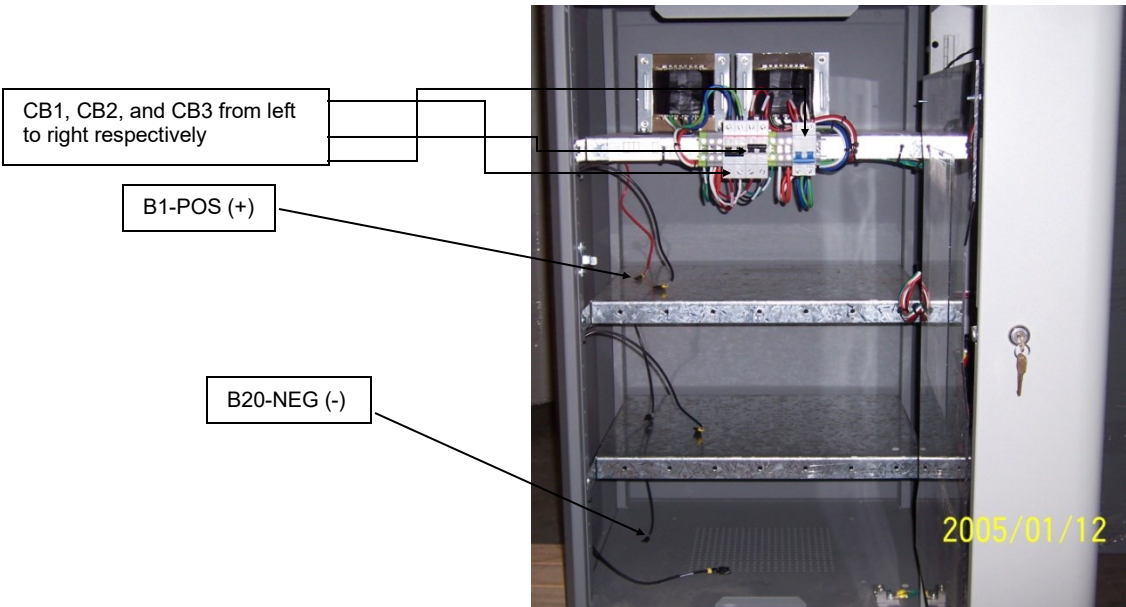
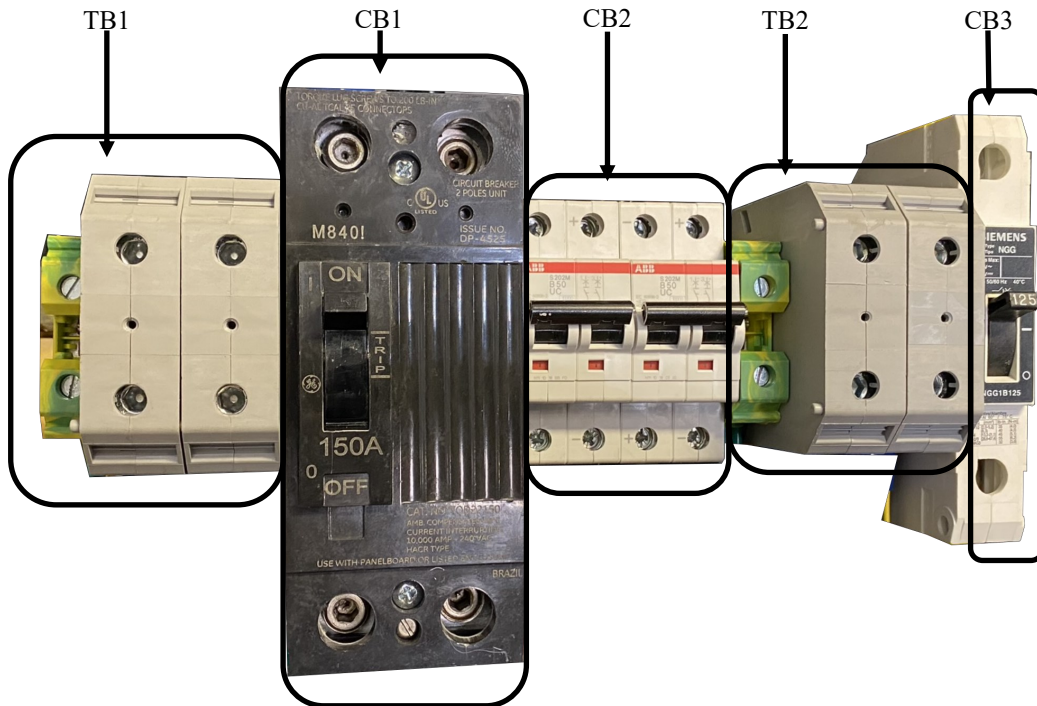
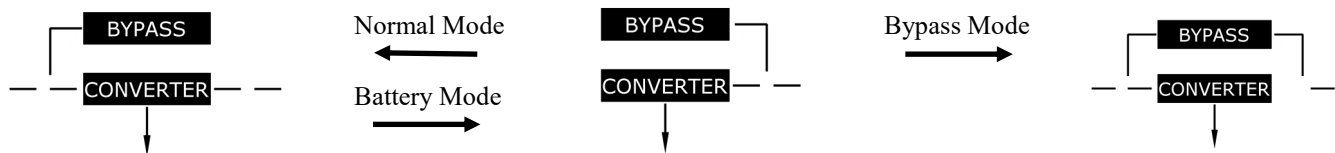

Figure 9
Figure 10
Figure 13
Figure 13 are the layouts that will help you find the parts and components in your Emergency Lighting Inverter. **Maintenance should only be performed by factory-trained or qualified personnel.** Do not attempt to service. If you need technical assistance, please contact DSPM.
The AC Input, AC Output Terminals Blocks are provided for the connection of incoming power and the connection of the load (equipment) intended to be powered by the UPS. Refer to Figure 10 and Figure 13—Component layout for these connections and their locations in the UPS Cabinet.
In most units, this switch is located on the inside of the left door of the system (see Figure 13—System Component Layout for exact location). The bypass switch is used in case of a failure of the lighting inverter. If the lighting inverter fails, place the bypass switch in the “MAN” position. In this position the inverter section is bypassed allowing the load to be powered by the utility until the inverter can be repaired. In case of system failure, contact factory for service. The Manual Bypass Switch is used to bypass the electronic (inverter) when the system have failed. The Manual Bypass Switch should never be operated when the UPS is supporting the load. The rotation of this switch will turn off the inverter. The Load will be fed from the Utility until the switch is place back into the UPS position, and the inverter is returned back to operation.
- 6.1.5. Make sure the proper polarity is observed. DC bus should be between 240 and 272 Vdc as tested at the top of the Battery Circuit Breaker-CB2 (Refer to Figure 10 and Figure 13—System Component Layout).
The input power connections to the UPS come from the building supplied services. These connections are made inside the UPS cabinet (refer to Figure 9, 10 and Figure 13, System Component Layout). The input cables are connected to a three (3) pole terminal block(TB1) which is comprised of one (1) input power, neutral, and ground connections.
The output power connections are made inside the UPS cabinet (refer to Figure 9, 10 and Figure 13, System Component Layout). The output cables are connected to a three (3) pole terminal block (TB2) which is comprised of one (1) input power, neutral, and ground connections. The output over-current protection from the DSPM UPS System is the responsibility of the End User.
LCD single line diagram will change depending on current state of operation, Refer to Figure 13.